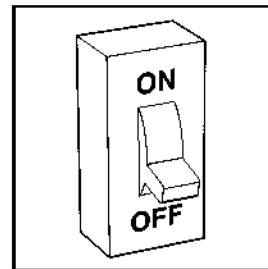

Fig. 12 - Turn Off Electrical Supply
1. Turn off the electrical supply to the furnace. See Fig. 12.